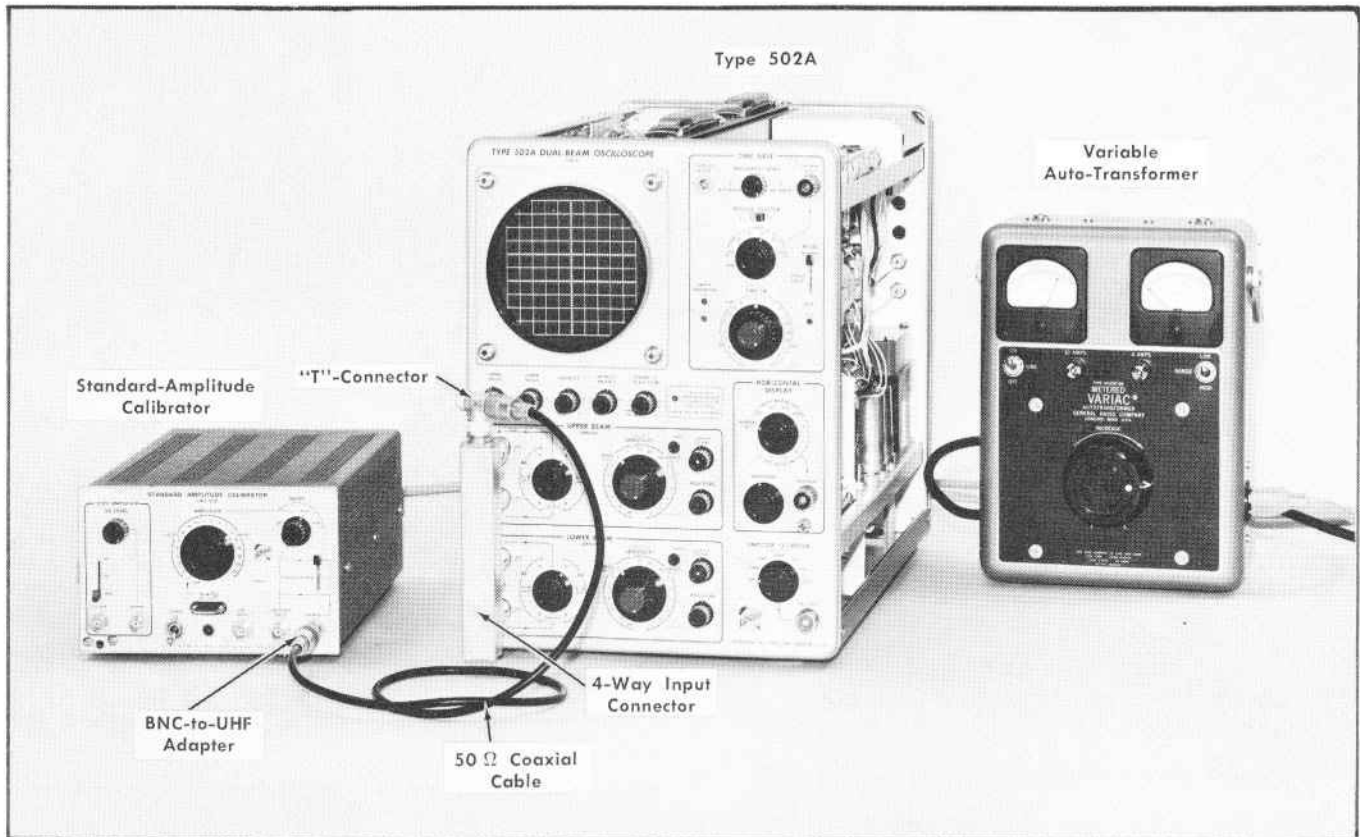

Fig. 6-19. Test equipment setup for steps 19 through 25.
①
- Set up the equipment as shown in Fig. 6-19.